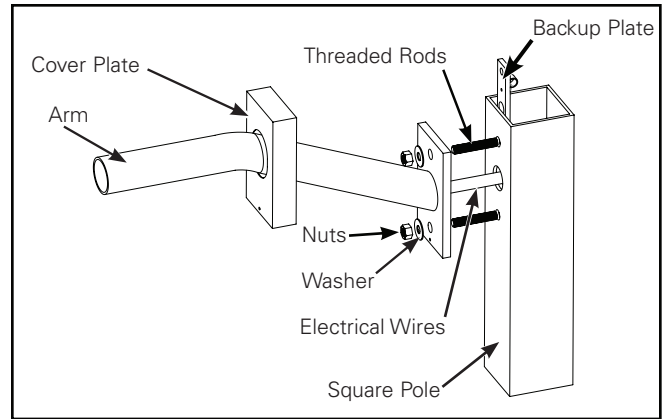
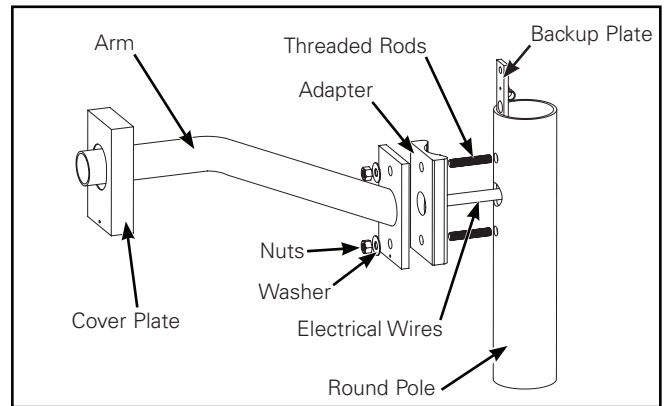

Figure 7.
Figure 8.
#### Mast Arm: Square Pole (Figure 7.) and Round Pole (Figure 8.)
3. For round poles only - Install round plate adapter with round side facing pole (Figure 8.). Align holes top and bottom.
2. For round poles only - Install round plate adapter with round side facing pole (Figure 7.). Align holes top and bottom.